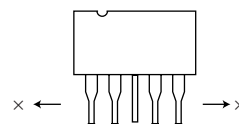

Fig.2
- (2) Ribbon terminal must not be bent to the direction of thicker side as shown in Fig.2.
- (3) Do not repeat the bending.